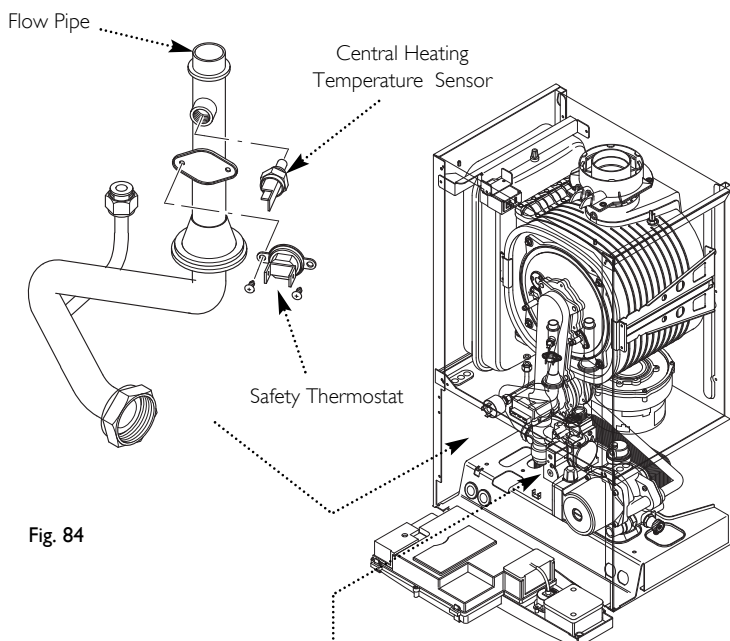

Fig. 84
- Important: When fitting the new venturi, ensure the arrows on its base point into the collector (Fig. 84).
14.10 Central Heating Temperature Sensor (NTC) (Fig. 84)